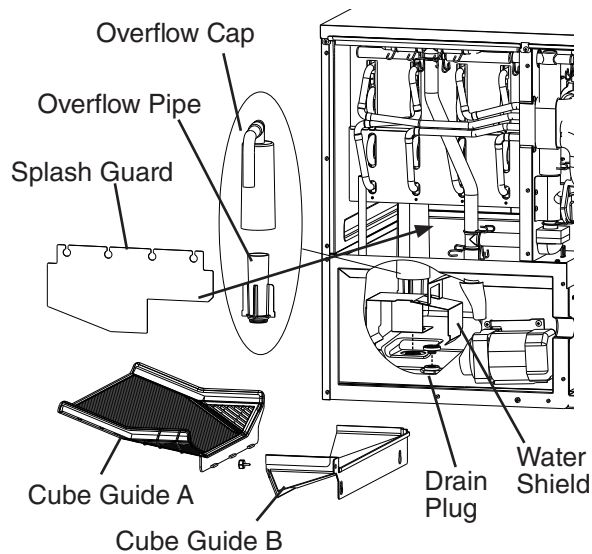

Fig. 12
- 7) Remove the insulation panel, then remove splash guard, cube guide B, and cube guide A. Next, remove the overflow cap, overflow pipe, water shield, and drain plug. See Fig. 12.